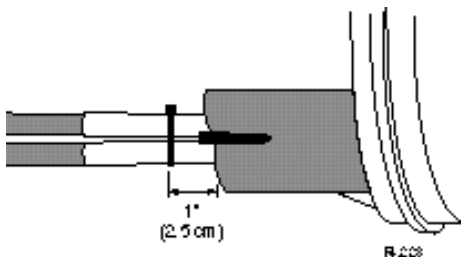

Figure 14
7. Install the branch-off clip as shown. The clip's base must touch the tube. (Figure 14)